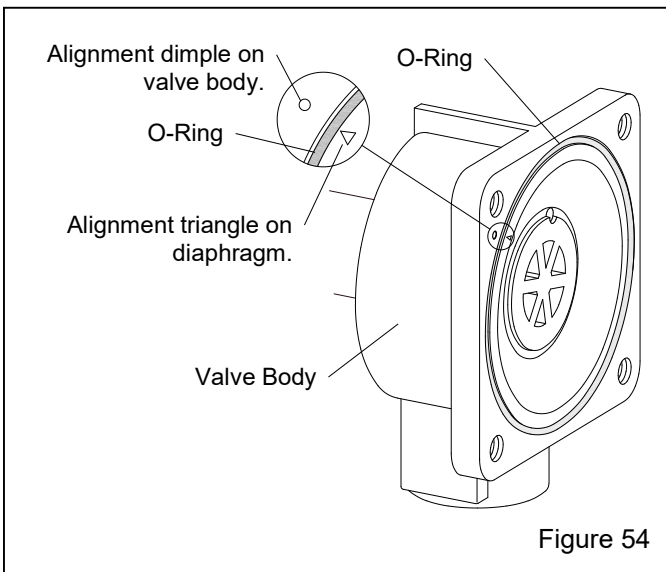

Figure 54
7.18.2 Remove the four cover screws and remove the cover, while keeping the diaphragm in place within the body. **NOTE: Before removing the diaphragm and O-ring, note the round dimple on the upper left on the valve body and the position of the triangular shape on the upper left of the diaphragm, as shown in Figure 54. When reinstalling the diaphragm, the marks must be aligned as shown.**
7.18.3 Reassemble using the new diaphragm and O-ring from the service kit, making sure the diaphragm is correctly aligned, as noted in Figures 54 and 55, and that the O-ring is seated into the groove.